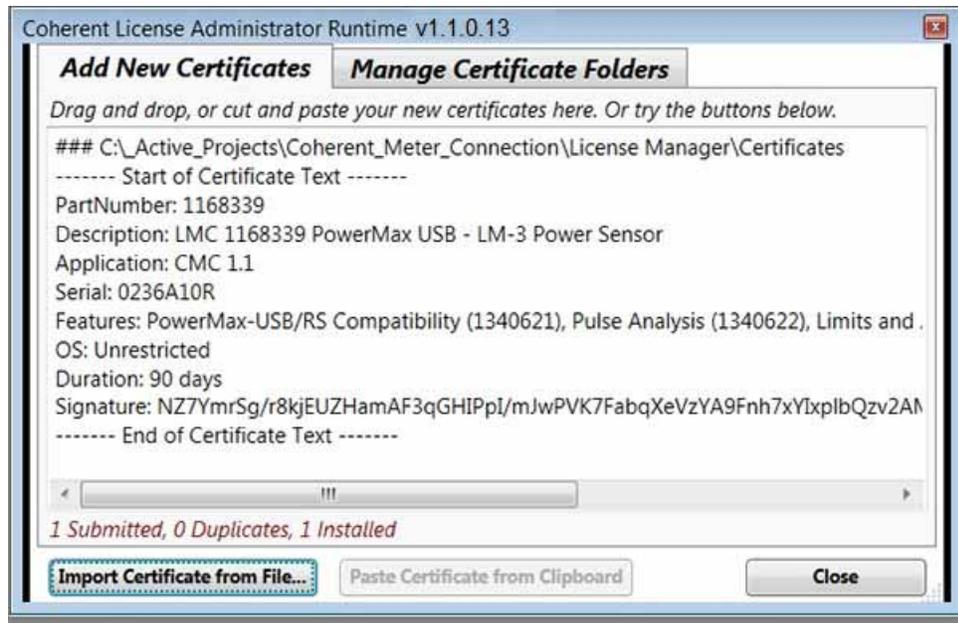

Figure 2-28. License Manager - Certificate Placed
The License Certificate is imported by the License Administrator software and is displayed in the **Add New Certificates** window (shown in Figure 2-28).
5. Under the Add New Certificates tab, click the button to Paste Certificate from Clipboard. The text is automatically pasted, installed, and saved as shown earlier in Figure 2-28.